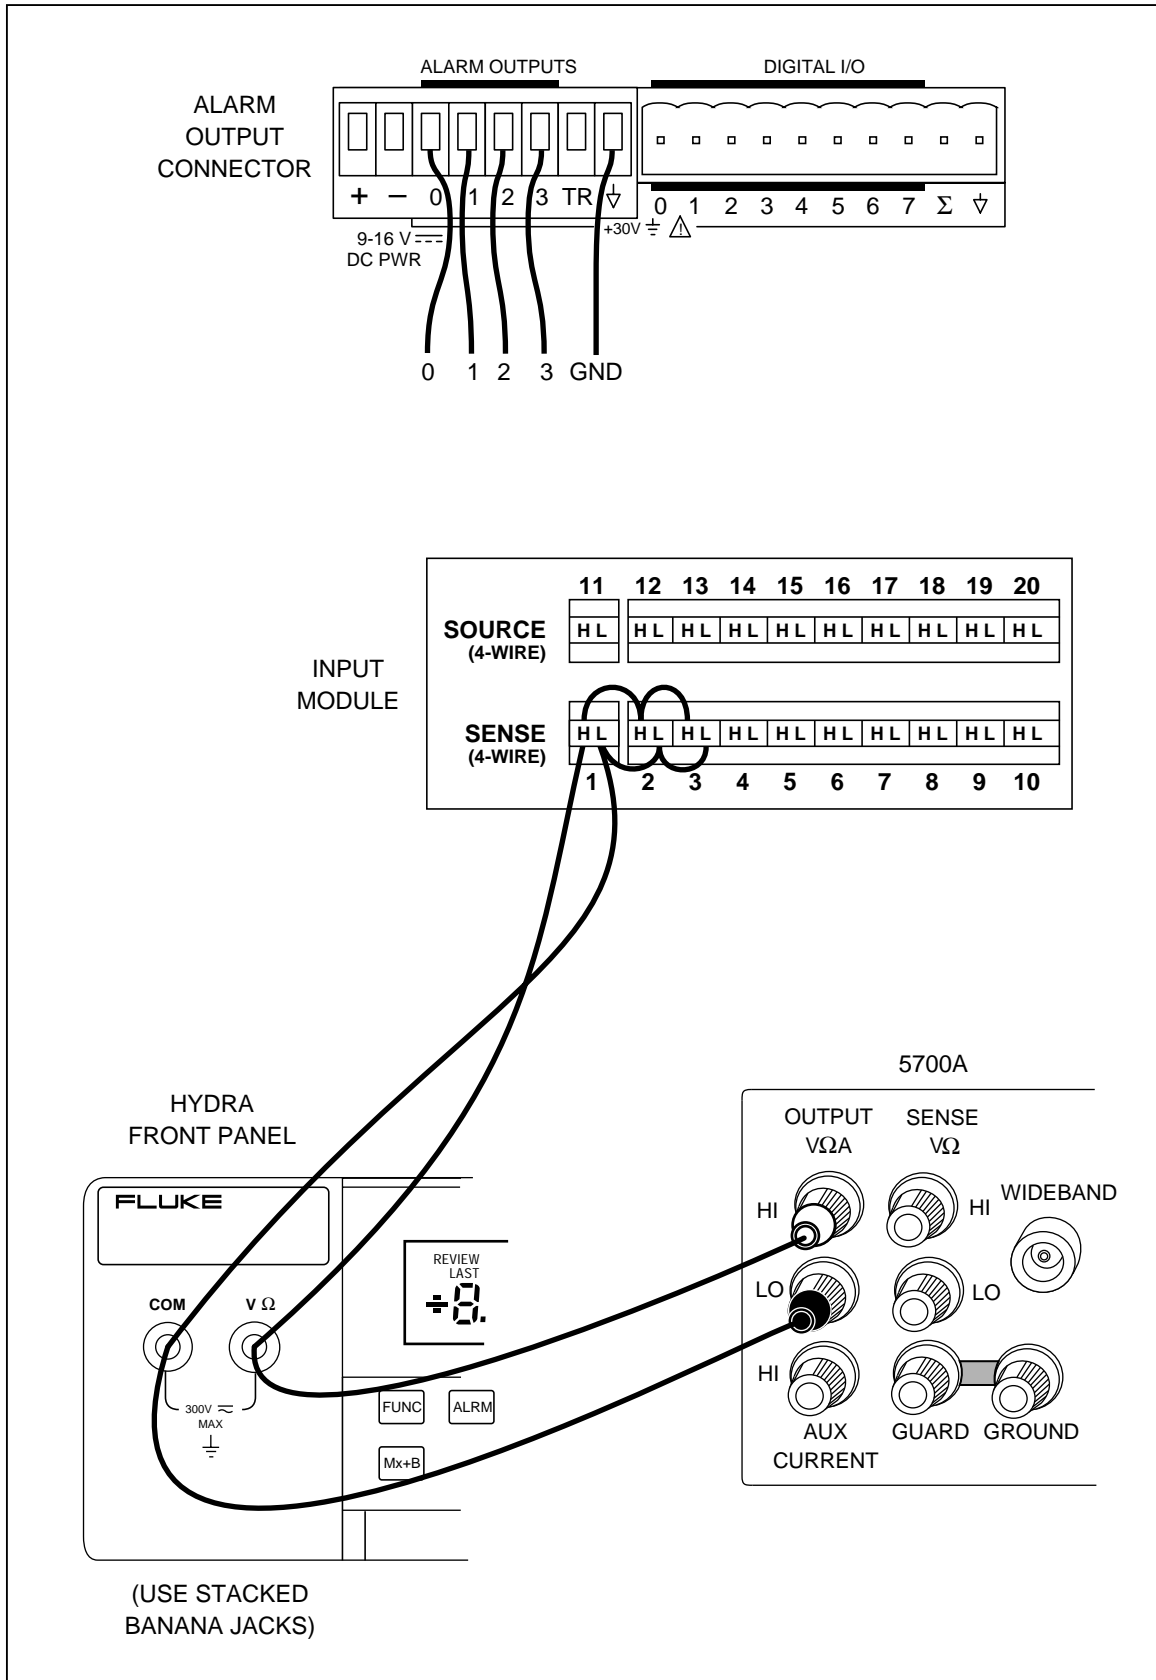

Figure 4-3. Dedicated Alarms Test
3. Remove the Input Module from the rear of Hydra. Open the Input Module and jumper the H (high) terminal of channels 1, 2, and 3 together. Connect a test lead to the H of channel 1. Also jumper the L (low) terminals of channel 1, 2, and 3 together. Connect a second test lead to the L of channel 1. Reinstall the Input Module into Hydra. Refer to Figure 4-3.